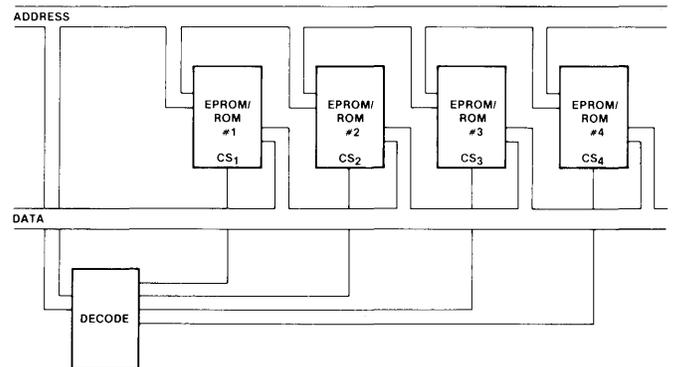
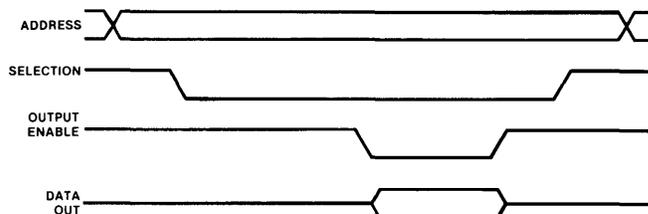
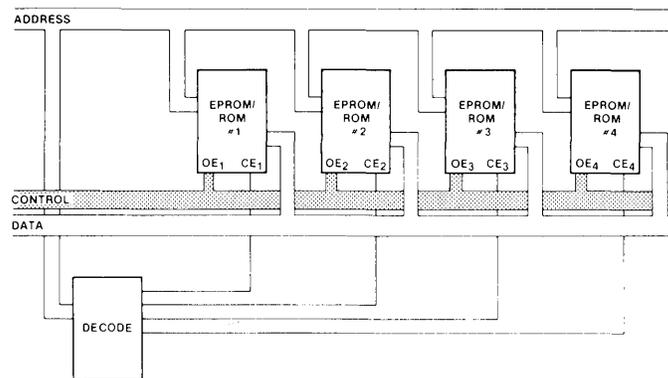

Figure 2. Single Control Line Architecture
Figure 5. Two Control Line Architecture
Figure 6. Two Control Line Architecture
As higher performance microprocessors have become available, the architecture of microprocessor systems has been evolving, again placing demands on memory. For many years, system designers have been plagued with the problem of bus contention when connecting multiple memories to a common data bus. There have been various schemes for avoiding the problem, but device manufacturers have been unable to design internal circuits that would guarantee that one memory device would be “off” the bus before another device was selected. With small memories (512x8 and 1Kx8), it has been traditional to connect all the system address lines together and utilize the difference between t_{ACC} and t_{CO} to perform a decode to select the correct device (as shown in Figure 2).
Now let's examine the system architecture that is required to implement the two line control and prevent bus contention. This is shown in the form of a timing diagram (Figure 5). As before, addresses are used to generate the unique device selecting function, but a separate and independent Output Enable (OE) control is now used to gate data "on" and "off" the system data bus. With this scheme, bus contention is completely eliminated as the processor determines the time during which data must be present on the bus and then releases the bus by way of the Output Enable line, thus freeing the bus for use by other devices, either memories or peripheral devices. This type of architecture can be easily accomplished if the memory devices have two control functions, and the system is implemented according to the block diagram shown in Figure 6. It differs from the previous block diagram (shown in Figure 2) in that the control bus, which is connected to all memory Output Enable pins, provides separate and independent control over the data bus. In this way, the microprocessor is always in control of the system; while in the previous system, the microprocessor passed control to the particular memory device and then waited for data to become available. Another way to look at it is, with a single control line the system is always asynchronous with respect to microprocessor/memory communications. By using two control lines, the memory is synchronized to the processor.